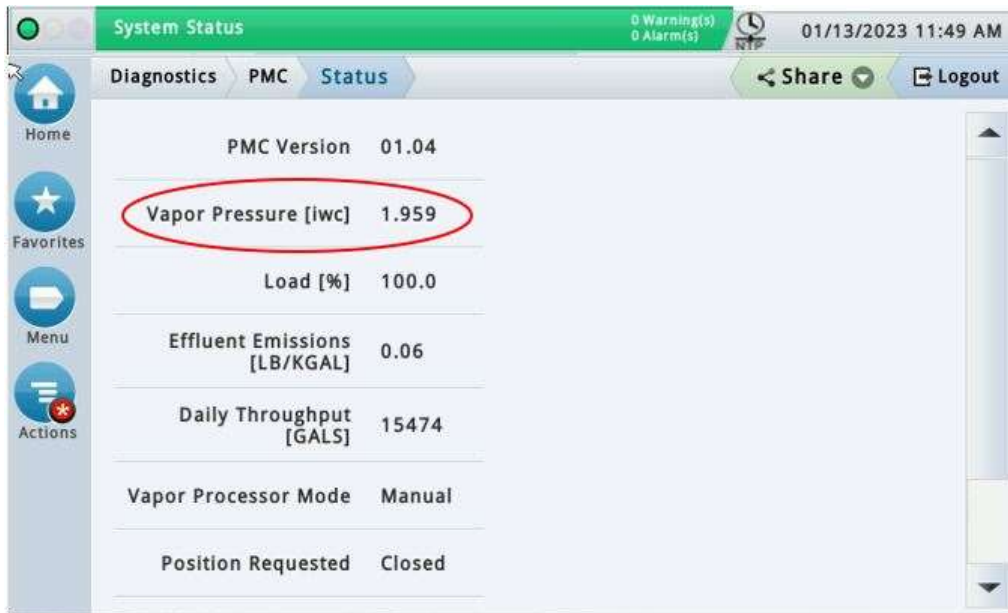

FIGURE 10-7
- iii. Use various pipe fittings to accommodate the ¼ inch test port, including half inch NPT female tee fitting and half inch to quarter inch reducer, as shown in Figure 10-7.
VST Membrane/VST Green Machine (TLS-350 Series)	At the TLS Console, enter the PMC Diagnostic Menu and manually turn on the processor as shown in Figure 10-7